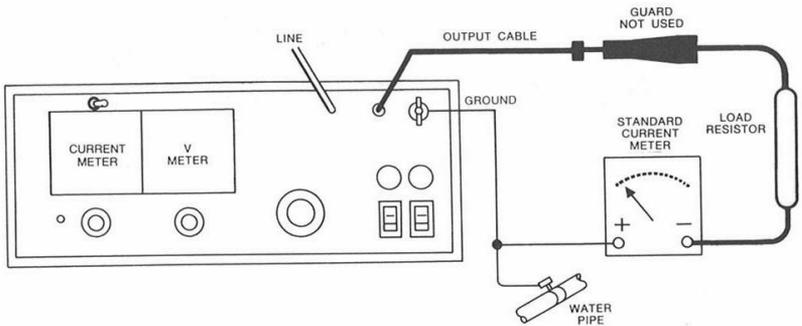

Figure 20: Connections for Calibration of the Current Meter
1. Make connections as shown in Figure 20 using $5\ \mu\text{A}$ range on standard meter and 10-megohm resistor.